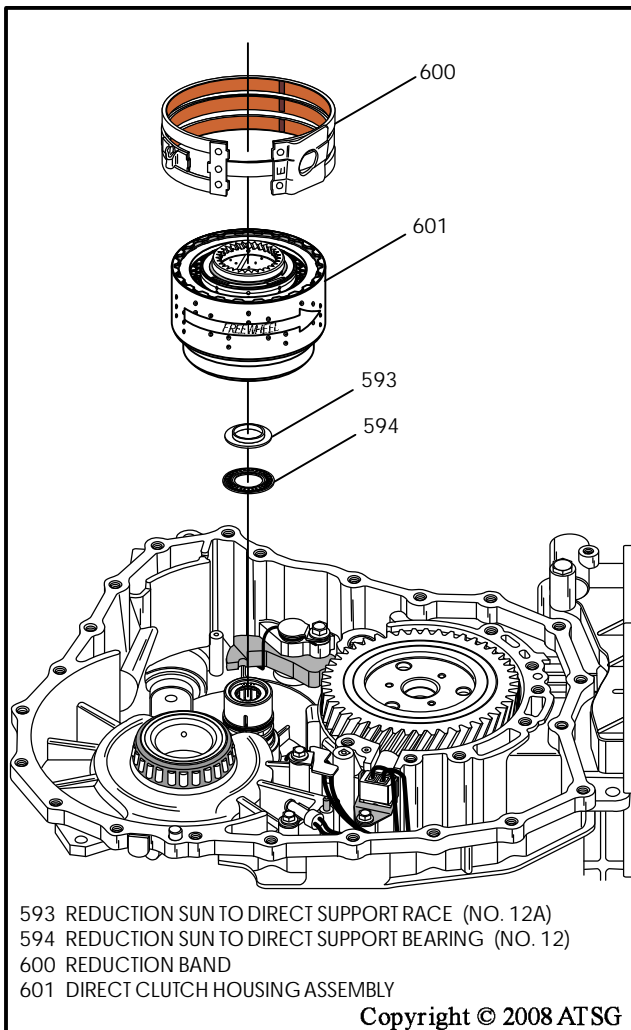

Figure 215
6. Install the number 12 thrust bearing and the number 12A thrust bearing race onto the direct clutch support, as shown in Figure 215.
7. Lubricate the inside sealing ring area of direct clutch housing with the proper fluid and install the completed direct clutch housing, as shown in Figure 215.
- Note: After installation, direct clutch housing should freewheel counter-clockwise and lock clockwise, as shown in Figure 215.**
8. Install the reduction band assembly, as shown in Figure 215, and engage with the previously installed servo pin and band anchor.